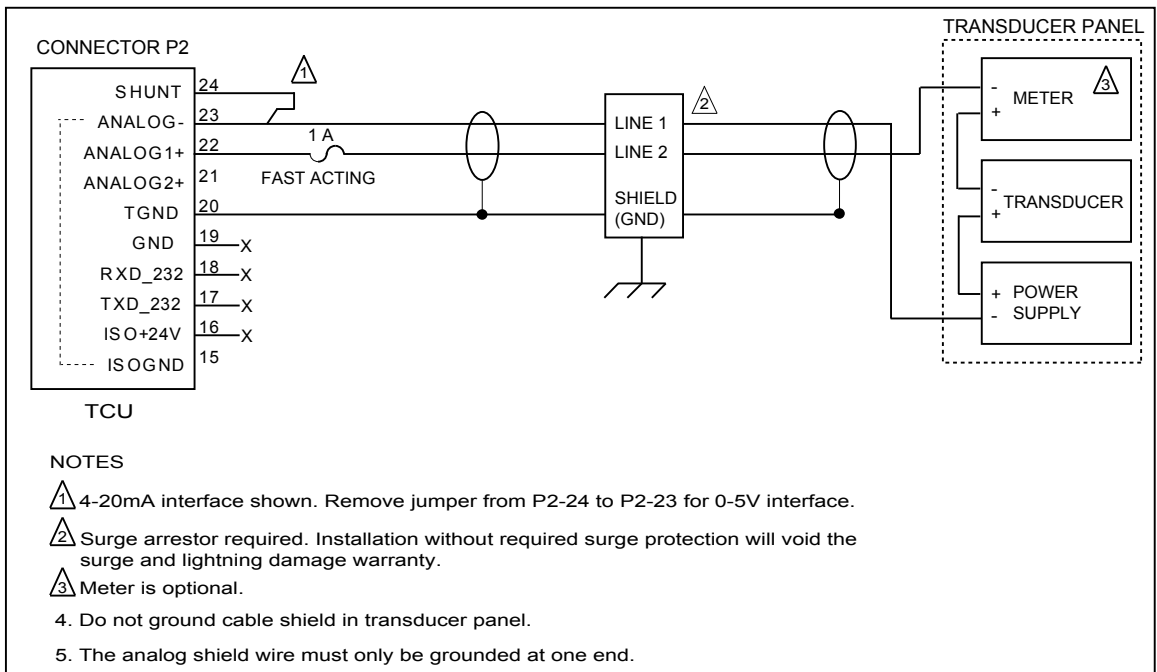

Figure 6-17, "Externally Powered Non-submersible Transducer"
- Because *ANALOG1+* and *ANALOG2+* are tied to a common isolated ground (*ANALOG-*), the TCU must be the last device in a multiple device analog loop (see Figure 6-17, "Externally Powered Non-submersible Transducer" on page 75 for an example).